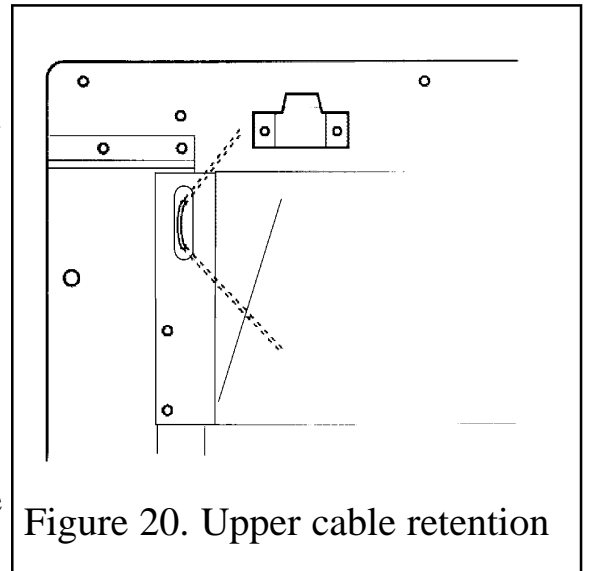

Figure 20. Upper cable retention
5. The hotbox has two holes at each side of the spillage plate. Insert one end of each cable (one cable each side) from the back through the lower of the two holes and return the end through the upper of the holes (See figure 20). Give the cables a pull so that they grip against the hotbox flanges.